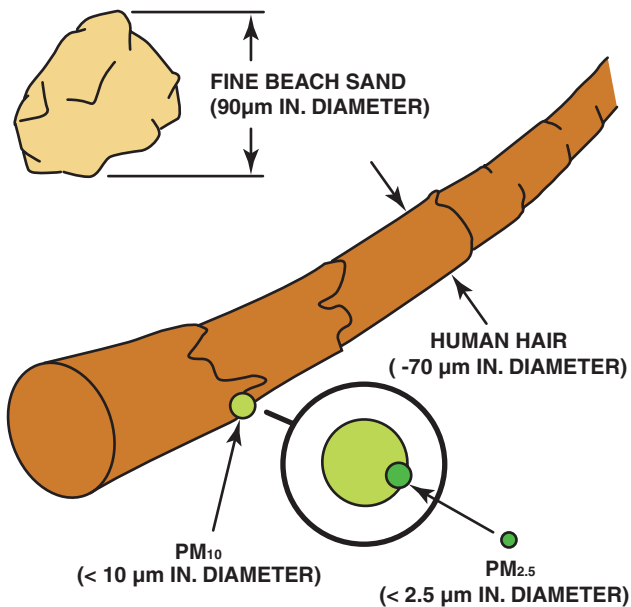

FIGURE 4-22 Relative size of particulate matter to a human hair.
- **PM2.5.** Refers to particulate matter of 2.5 microns or less (approximately 1/20 the diameter of a human hair), also called “fine” particles. In July 1997, the EPA approved a standard for PM2.5. ● **SEE FIGURE 4-22.**